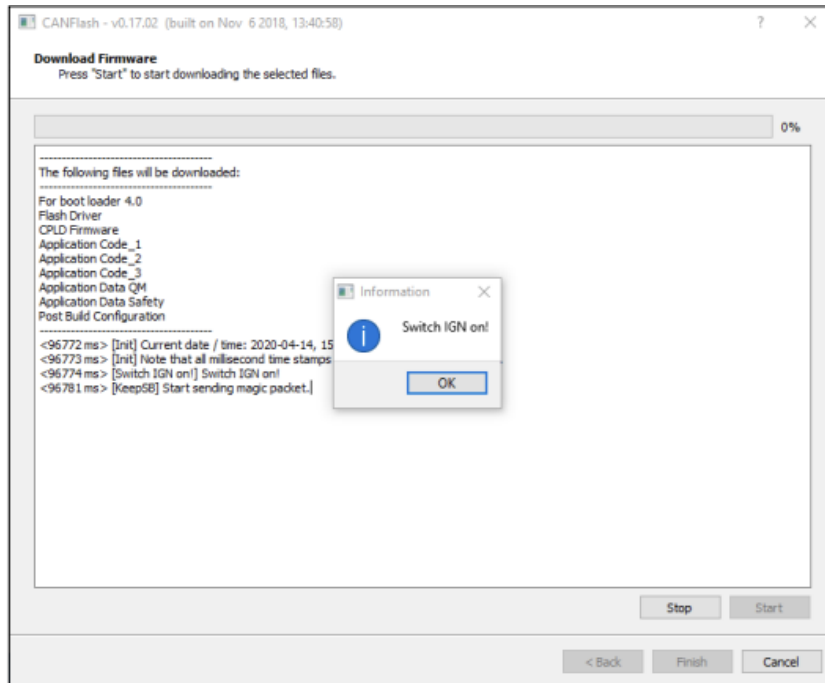

Figure 30: Flip switch on 1144289 when CANFlash shows Switch IGN on!
83. Flip the ignition switch on 1144289 ON when CANFlash says Switch IGN on! (see figure 30). In part 1 you do not need to turn the Master Run switch ON.